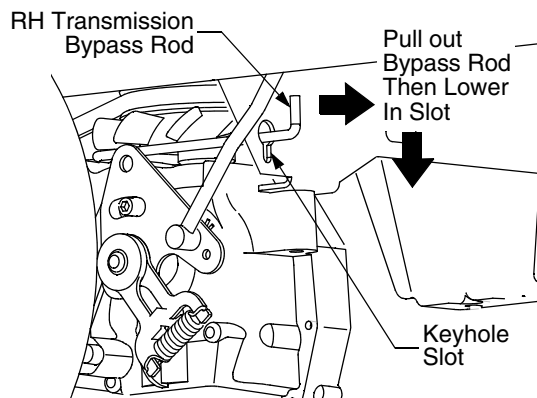

Figure 23
- From just in front of the two rear tires, locate the transmission bypass rods. See Figure 23.